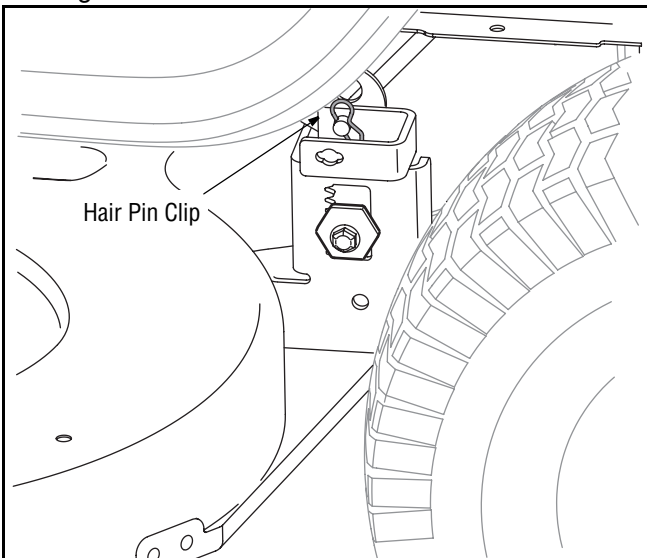

Figure 20
- Looking at the cutting deck from the left side of the tractor, locate the hair pin clip that secures the deck support rod on the rear left side of the deck. See Figure 20.